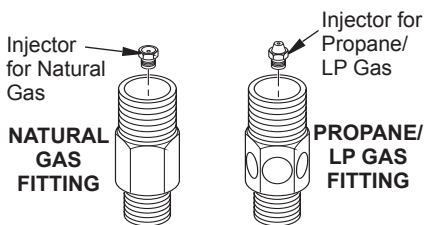

Figure 12 - Burner Inlet Fittings with Injectors
1. Remove burner inlet fitting from burner pan assembly. DO NOT remove orifice from this fitting. Propane/LP burner inlet fitting is included in hardware kit (see Figure 12).